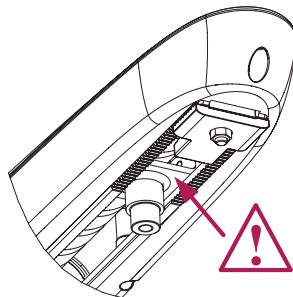

Figure 14. After the drive is mounted, the connector must not contact the enclosure
- with the drive released, make sure that the leaf is moving smoothly when opened or closed, and the drive does not hit the post or the gate leaf. Check the opening angle of the leaf. There should be no friction between the slide nut of the drive and the enclosure (fig. 14).